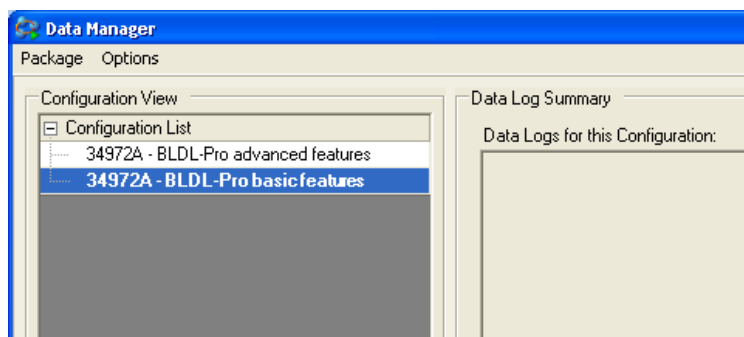

Figure 12 – Open configuration 34972A-BLDL Lab
- A Configuration file has already been created for this lab. Click **Configuration -> Open** and from the Configuration list select **34972A-BLDL-Pro basic features**. Press **Open** to open the configuration (figure 12).